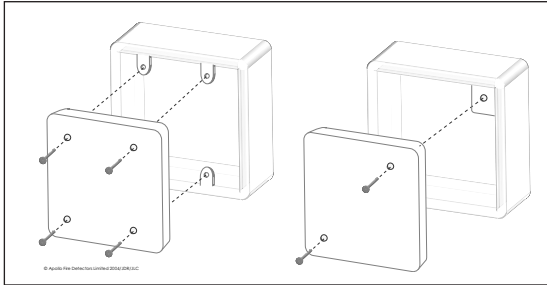

Fig. 1 - Mounting the XP95A Sounder Control Module
2. Drill holes in the face plate corresponding to the holes on the mounting box selected (Fig. 1).